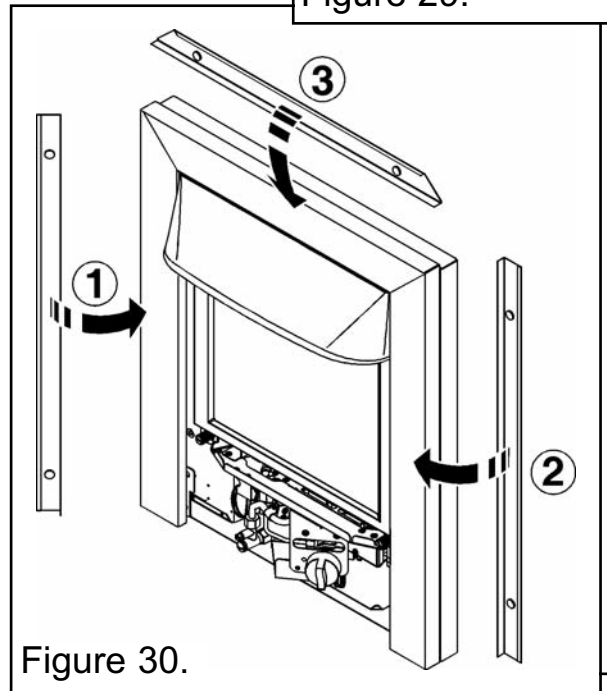

Figure 30.
2. Fit in reverse. Note: Each trim piece is held in place using two magnets. Place two magnets approximately 50mm from the rear ends of each trim piece. The top trim is the shortest trim. Fit the side trims to the sides of the fascia frame (See figure 30). With the side trims in place, fit the top trim to the fascia frame (See figure 30).